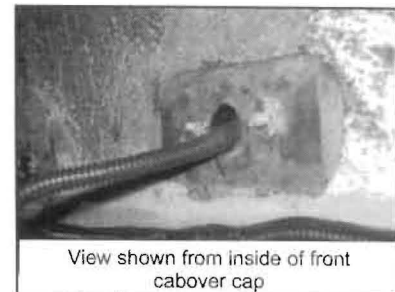

Figure 3
10. Cover all exposed clearance light wires with 3/8" diameter auto loom in the area where they pass through the front cap. See Figure 3. Apply sealant to the inside of the auto loom to keep wires in place after light reinstallation. Allow sealant to fully cure before reinstalling the lights.